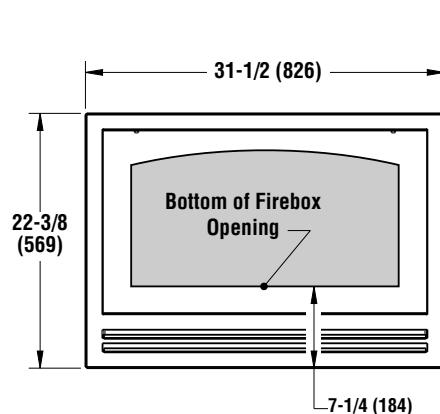

Figure 12C - Installation Options
**NOTE:** Top, bottom, and side guide marks on the front of the fireplace provide facing limits when using materials greater than 1" (25 mm) thick that cannot extend behind the facade. These act as a guide when facing materials are brought to the perimeter of the facade. See **Figure 12C** for examples. Inner marks are for Clean Face and outer marks for Louvered Facades.